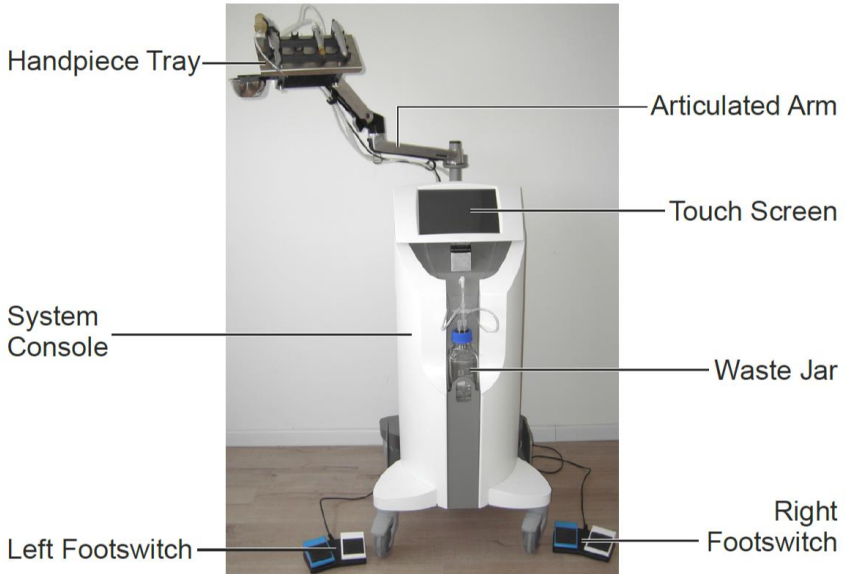

Figure 4-1. System Components (Front)
- Figure 4-1. System Components \(Front\)
The system console, as shown in Figure 4-1, is the main enclosure that holds and contains all external and internal system components.
The touch screen, as shown in Figure 4-1, is the primary means of communication between the user and the system.